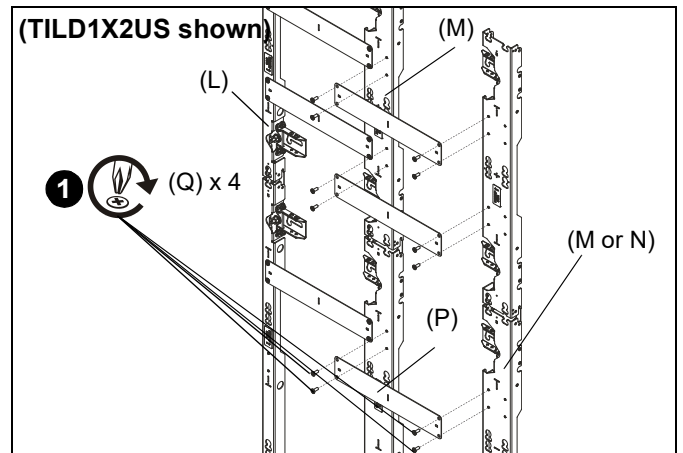

Figure 15
- Use four 10-24 x 1/2" flathead Phillips screws (Q) to secure spacer plates (P) to mounting uprights (M and M or N). (See Figure 15)